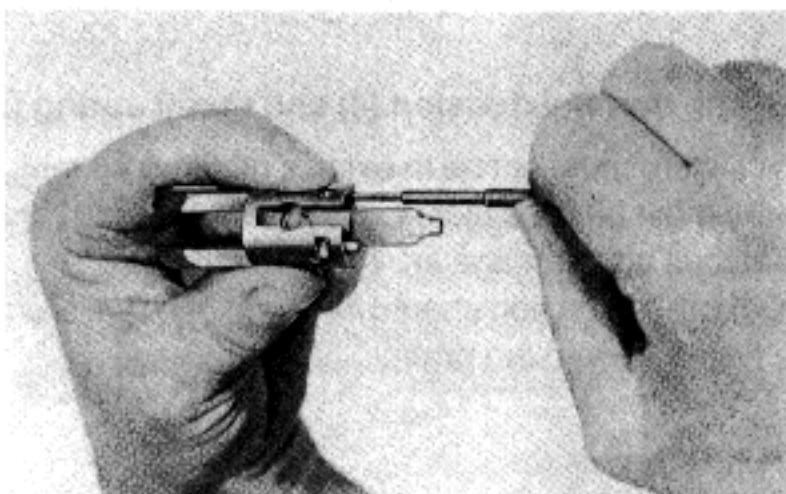

Fig. 13
| 1    | Screwdriver 2 mm x 180            | for set screw (10) in the slide, Fig. 13                                                                                                                   |
- Undo the set screw (10) (Fig. 13) and remove the compression spring (9) together with the catch bolt (8).